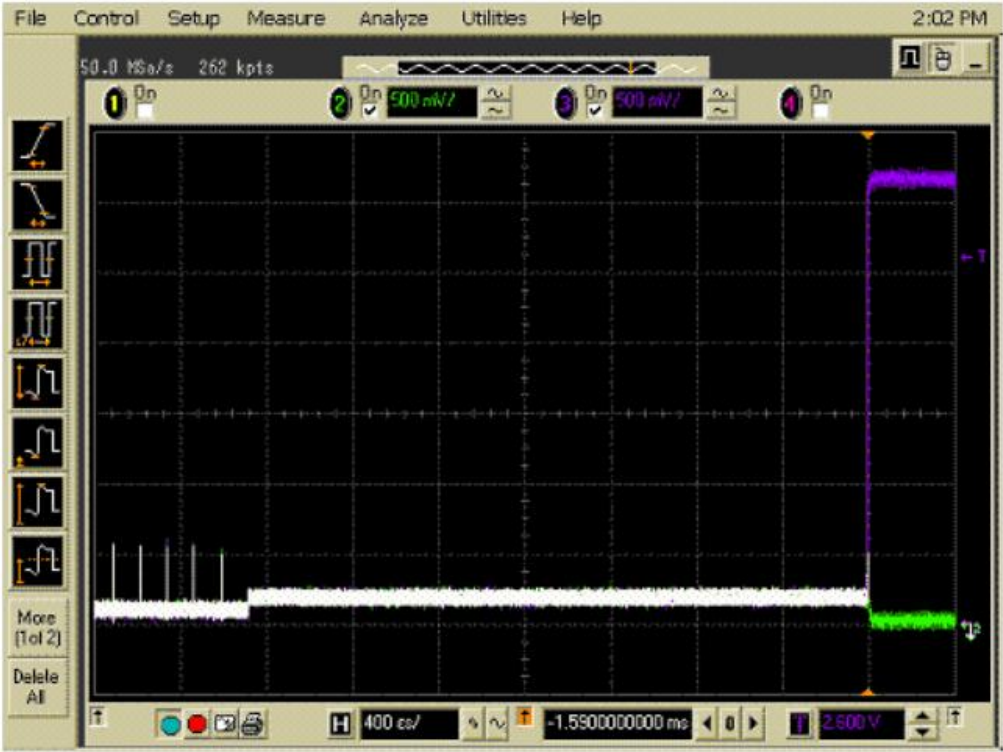

Figure 77. EL_39 host suspend waveform
5. After 15 seconds the host port will enter Suspend state, as shown in Figure 77. The captured transition should be as shown in Figure 77. Click on OK to close the Test Instruction dialog.